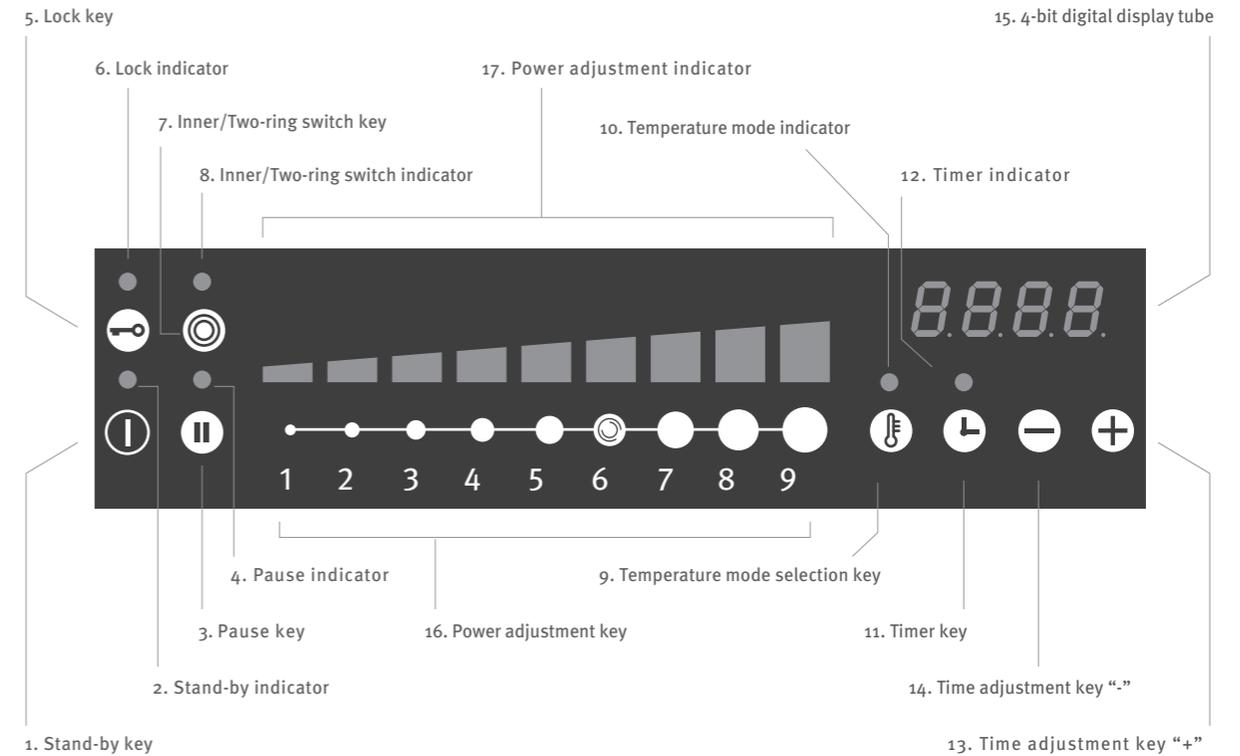

Figure 1 Control panel
1. Draw the points on your table top as shown in Fig.1, R5 and drill through the table top with a \varnothing 10 mm drill bit.
2. As in Fig.1 draw the line between the points and cut out the table top.